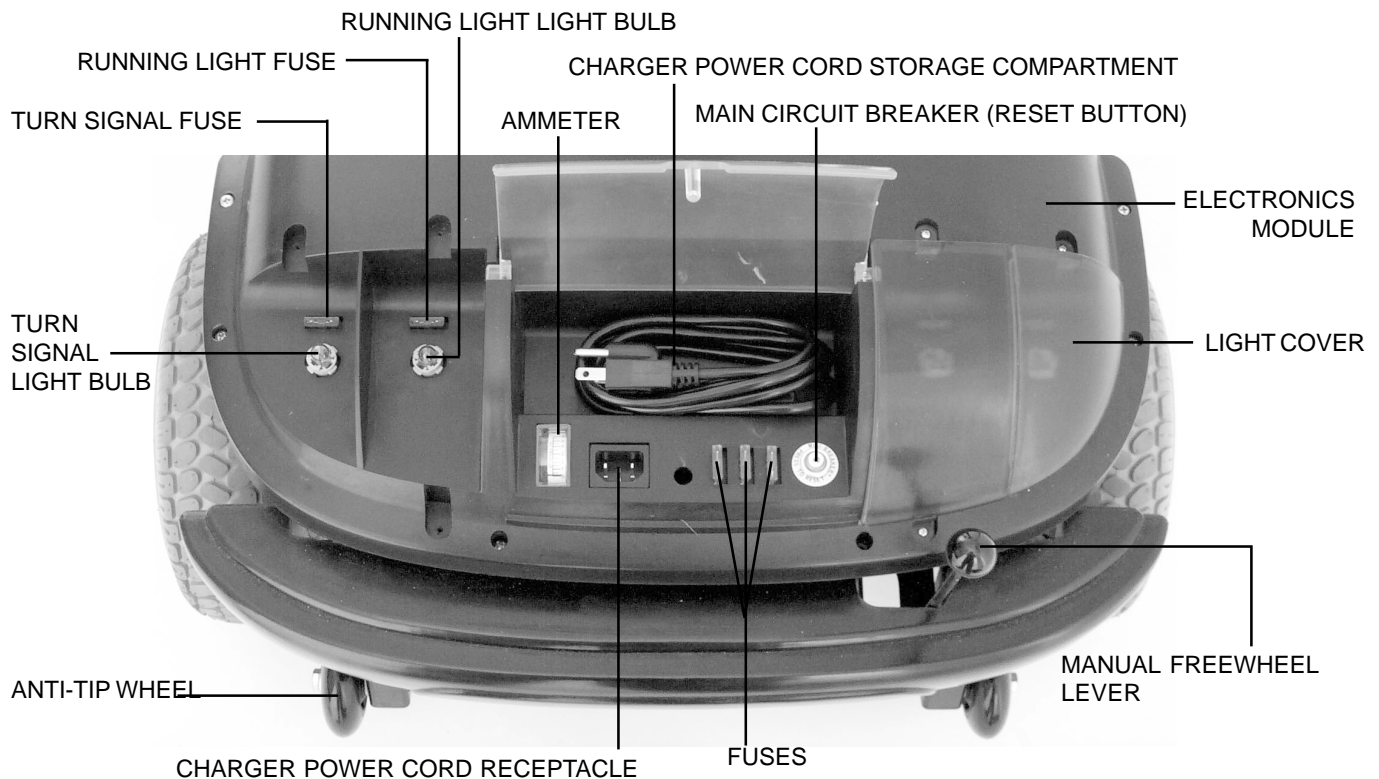

Figure 8. Rear Section (left Light Cover Removed For Clarity)
The onboard battery charger (not shown), the charger power cord receptacle, the batteries (not shown), the electronics module, the main circuit breaker (reset button), the ammeter, the manual freewheel lever, the anti-tip wheels, and the motor/transaxle assembly (not shown) are located on the rear section of your Sport Scooter. See figure 8. Refer to IX. “Disassembly and Assembly” for instructions on removing the rear shroud.
When the voltage in your Sport Scooter’s batteries becomes low or your Sport Scooter is heavily strained because of excessive loads or steep inclines, the main circuit breaker may trip to protect your Sport Scooter’s motor and electronics from damage. See figure 8.
- The manual freewheel lever is located on the end of the motor/transaxle assembly at the right rear of the Sport Scooter. See figure 8.
The anti-tip wheels are an integral and important safety feature of your Sport Scooter. Do not, under any circumstances, remove the anti-tip wheels from your Sport Scooter. See figure 8.